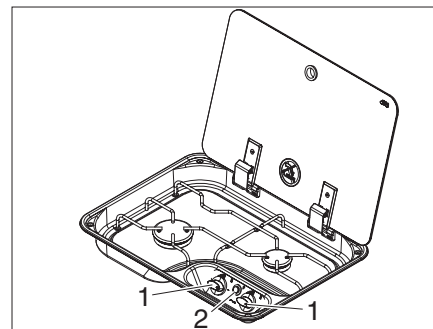

Fig. 115 Operating controls for gas cooker
- ▶ Turn the control knob (Fig. 115,1) on the burner you wish to use to the ignition position (large flame).
- ▶ Create a spark by pushing the ignition button (Fig. 115,2).
- ▶ Turn the control knob (Fig. 115,1) to the 0-position. The flame fades.